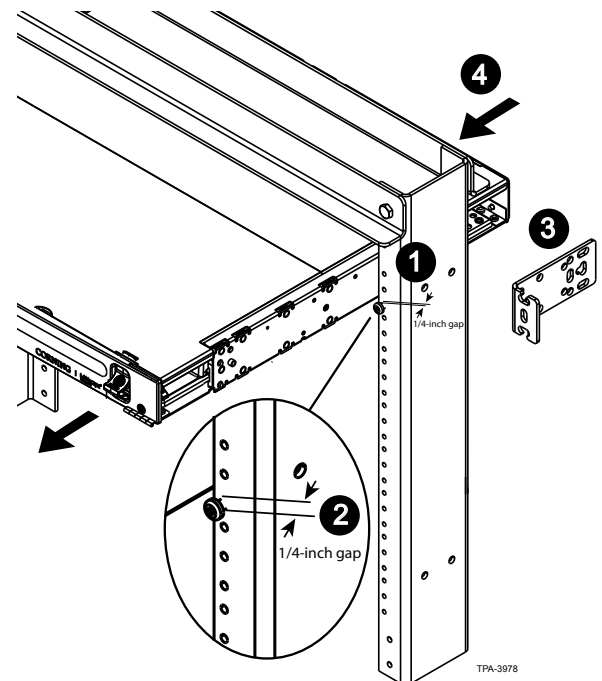

Figure 6
- Step 2:** Insert the bottom screws into the rack just above the desired location for the bottom edge of the housing (#12 screws provided — one per side), leaving 1/4-inch of screw threads exposed (Figure 6).